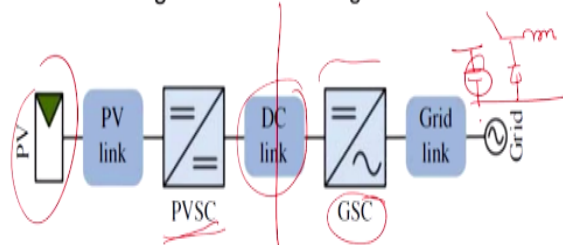

Fig.1 Block diagram of a grid-connected PV system with two-stage power conversion where PVSC is PV-side converter and GSC is grid-side converter
- Let's Consider that a two-stage conversion process of PV interconnection with grid as shown in Fig.1.